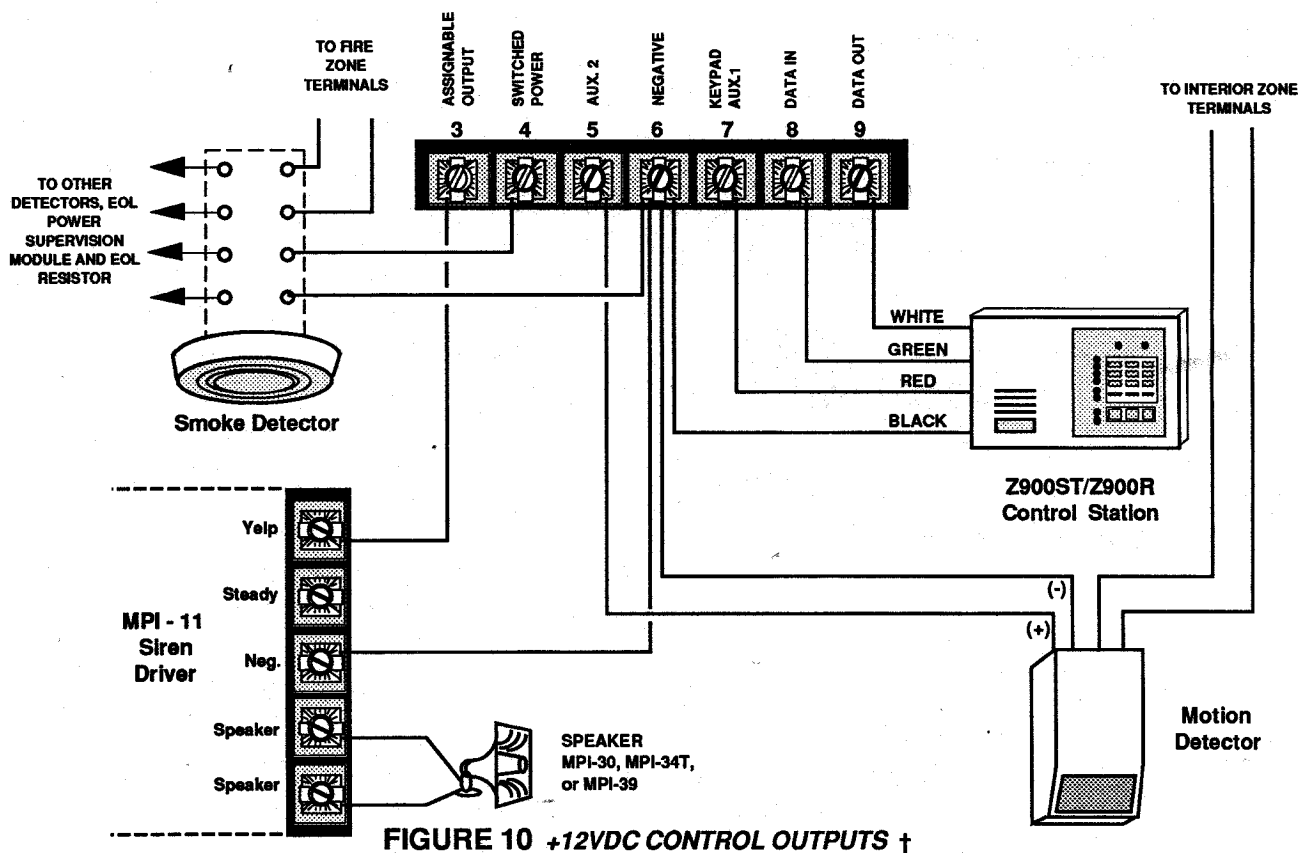

FIGURE 10 +12VDC CONTROL OUTPUTS †
Provides (+)12volts DC power for smoke detectors (see ff note on page i) and other devices that require momentary power interruption to reset. The power from this output can be momentarily interrupted to reset smoke detectors by pressing the "7" key and holding for three seconds. Each time the control does an automatic 24 hour test, power from this output will be removed for 5 seconds. For this reason, Switched Power should not be used to power any device that will trigger an alarm upon interruption and restoration of power. This output is fused at 2.5 amperes by fuse F2 which is also used to fuse the Keypad Power/Auxiliary 1 output (terminal 7). Do not exceed the current drain limitations as indicated in Table 10, page 42. See Figure 10 for a hook-up example.
Used to provide (+)12 volts DC power for motion detectors and other devices requiring uninterruptable power. This output is protected by a 2.5 ampere fuse (F1) which is also used to fuse the Assignable Output (terminal 3). Do not exceed the current drain limitations as indicated in Table 10, page 42. See Figure 10 for a hook-up example.
Used to supply (+)12 volts DC power for control stations. This output is fused at 2.5 amperes by fuse F2 which is also used to fuse the Switched Power output (terminal 4). This output may also be used to supply auxiliary power for motion detectors and other devices provided the total current draw does not exceed the limits as set by Table 10, page 42. See Figure 10 for a hook-up example.
Assignable through programming (Function 256) to provide a (+) 12volt DC output upon any or all designated alarm conditions. If this output is not used for output upon alarms, it may be assigned to any ONE of the following other conditions: Switched Power reset (key 7)/24 hour automatic tests, access activation, supervisory/trouble conditions, or entrance pre-alarms and chime (key 6). If used to provide output upon alarms, it then must be defined as to the type of alarm condition(s) that will activate this output. This may include Burglar, Auxiliary "A", Auxiliary "B", or Auxiliary "C" alarms (or any combination) as selected through programming Functions 257-260. Sirens, bells, or other output devices may be connected directly to the Assignable Output (terminal 3) of the control provided they do not exceed the current drain limitations as indicated in Table 10, page 42. It may be desired to use this output for non-alarm conditions when using the optional Z729 Siren Driver/Output Expander **. This output is protected by a 2.5 ampere fuse (F1) which is also used to fuse the Auxiliary 2 output (terminal 5). See Figure 10, page 10 for a hook-up example.